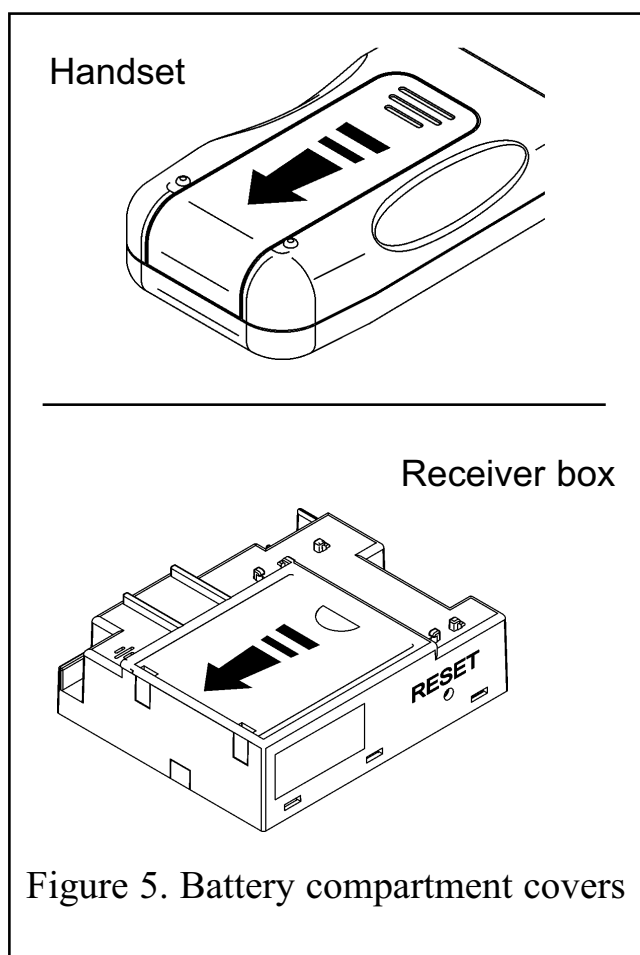

Figure 5. Battery compartment covers
3. Remove the receiver top cover (See figure 5)